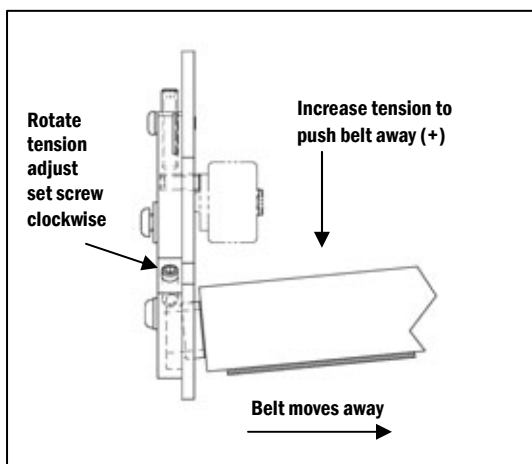

Figure 10
- Turn the tension adjust set screw clockwise (threading in). Increasing tension on this side will push the belt toward the opposite side (**Figure 10**). Wait for two belt revolutions around the conveyor to see if the adjustment corrects the issue. If not, move to the next step.